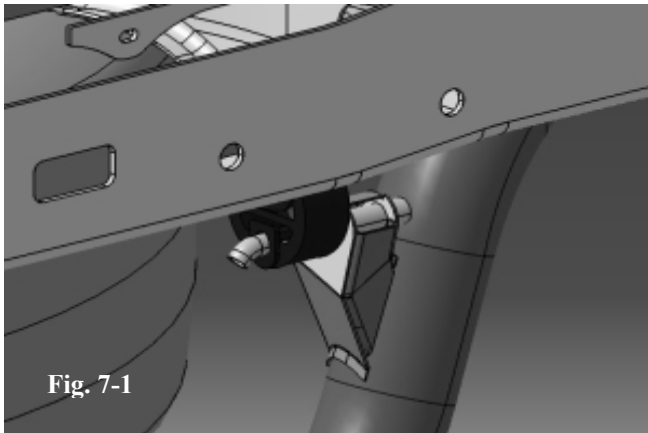

Fig. 7-1
- (a) Attach hanger rod of the TRD RH tailpipe assembly to the rubber hanger on the vehicle frame. (Fig. 7-1)